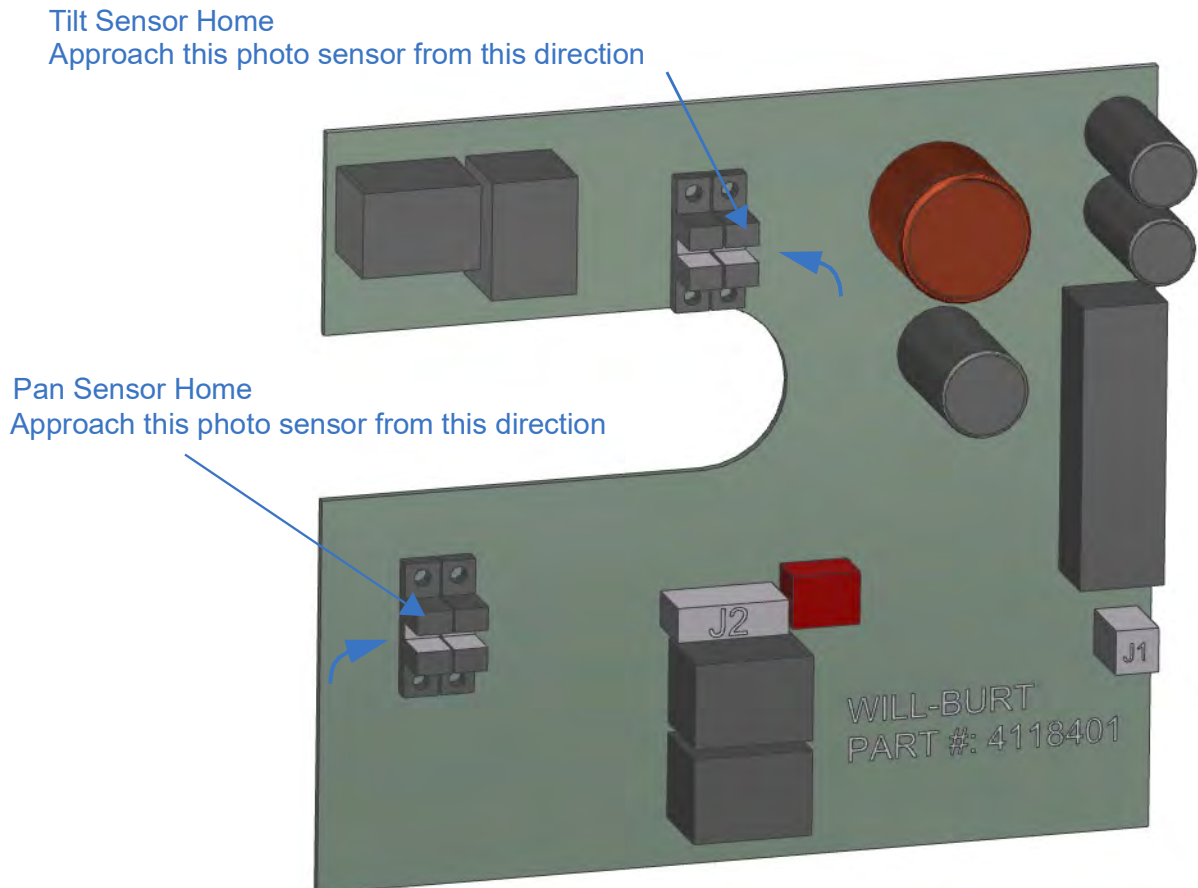

Figure 7-5 RCP PCB Photo Sensors
5. The pan and tilt functions have two photo sensors for each function. It is important that the flags engage the correct photo sensor from the proper direction when setting the home position (Figure 7-5). To set the Tilt Home Position, turn the timing ring on the tilt shaft such that it rotates counterclockwise toward the photo sensor (see Figure 7-5). As you approach the sensor, watch the controller. As soon as the "Tilt Down" LED goes out, stop rotating the ring and tighten the set screw. This should be roughly 80% penetration into the sensor with the flag.
6. To set the Pan Home Position, turn the flag clockwise (looking from above the RCP) until the "Pan Right" LED goes out (see Figure 7-5). Tighten the adjustment screws to secure the ring.